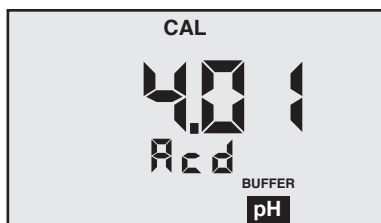

Figure 4
2. At this point the “CAL”, “BUFFER” and “Acd” or “bAS” annunciators will be displayed (see Figures 4 and 5).